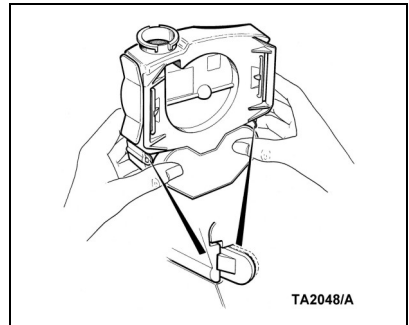

Fig. 4
4. Check that the battery is not damaged, has been freshly charged and is of the required design duration. The medium capacity battery is for a half shift (4 hours) and the high capacity battery is for a full shift (7.5 or 8 hours, dependant upon the battery type, as listed in the *Spare Parts* table). Slide the battery into the blower, ensuring that both clips are engaged (see Fig. 4).